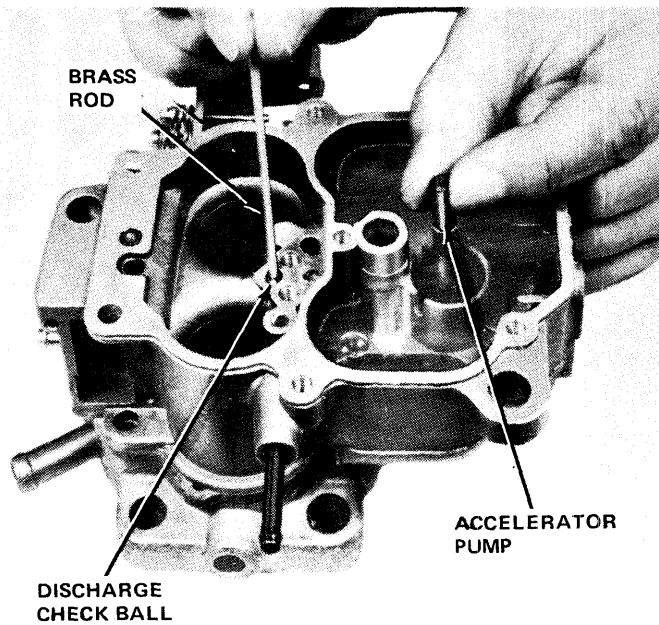

Fig. 4-54 Accelerator Pump Check
(1) Install idle mixture screws and springs in body. Do not use a screwdriver. Turn screws lightly against their seats with fingers. Back off the number of turns counted at disassembly. Do not install plastic caps at this time.
(2) Invert main body, place throttle body on main body, and align. Install screws and tighten securely.
(3) Install accelerator pump discharge check ball (5/32-inch diameter) in discharge passage and accelerator pump intake check ball (3/16-inch diameter) into bottom of pump cylinder.
(4) Check the accelerator pump system. Pour clean gasoline into carburetor bowl 1/2 inch deep. Insert pump piston into pump cylinder, work piston up and down gently to expel air from pump passage. With a suitable clean brass rod, hold discharge check valve firmly against its seat. Raise piston and press down—no fuel should be emitted from either intake or discharge passages (fig. 4-54).